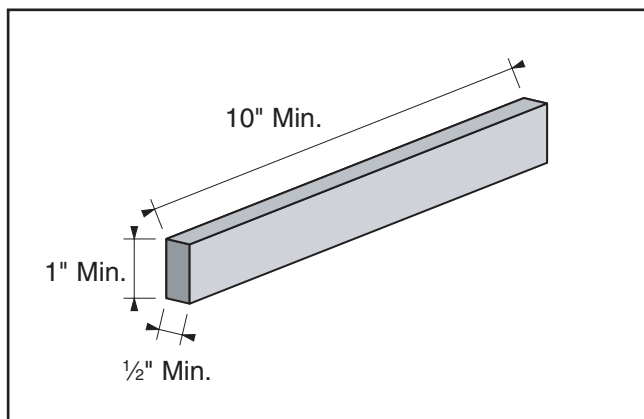

Figure 26. Minimum dimensions for edge jointing.
- **Make sure your workpiece exceeds the minimum dimension requirements (Figures 26 & 27) before edge jointing or surface planing, or it may break or kick back during the operation!**